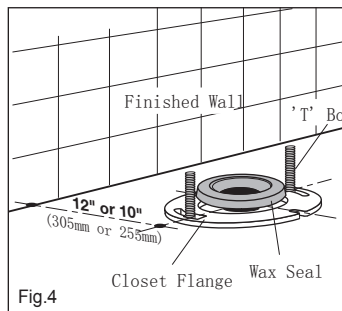

Fig.4
2. Position wax seal and offset adaptor onto "T" bolts as detailed in Fig. 4 and 5, ensuring that the offset adaptor is positioned for 10" (255mm) or 12" (305mm) rough in as detailed in Fig.1.